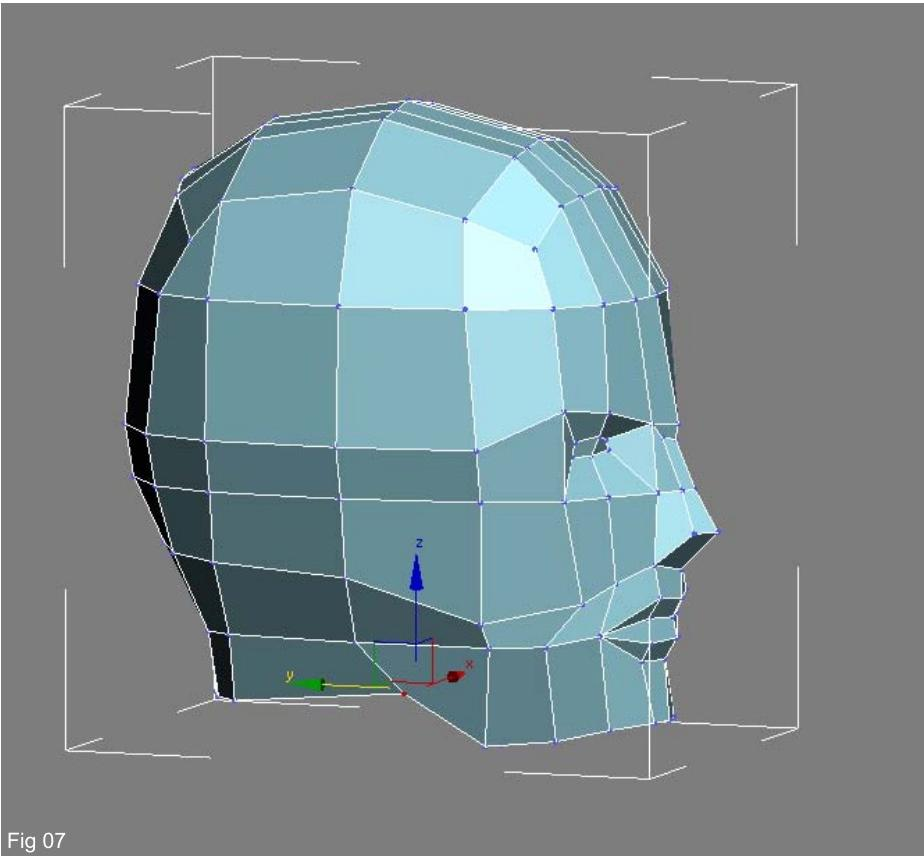

Fig 07
7. The features are now beginning to form, albeit in a rather crude way but there is still no evidence of a chin so pull up some of the lower verts to alleviate this (Fig07).